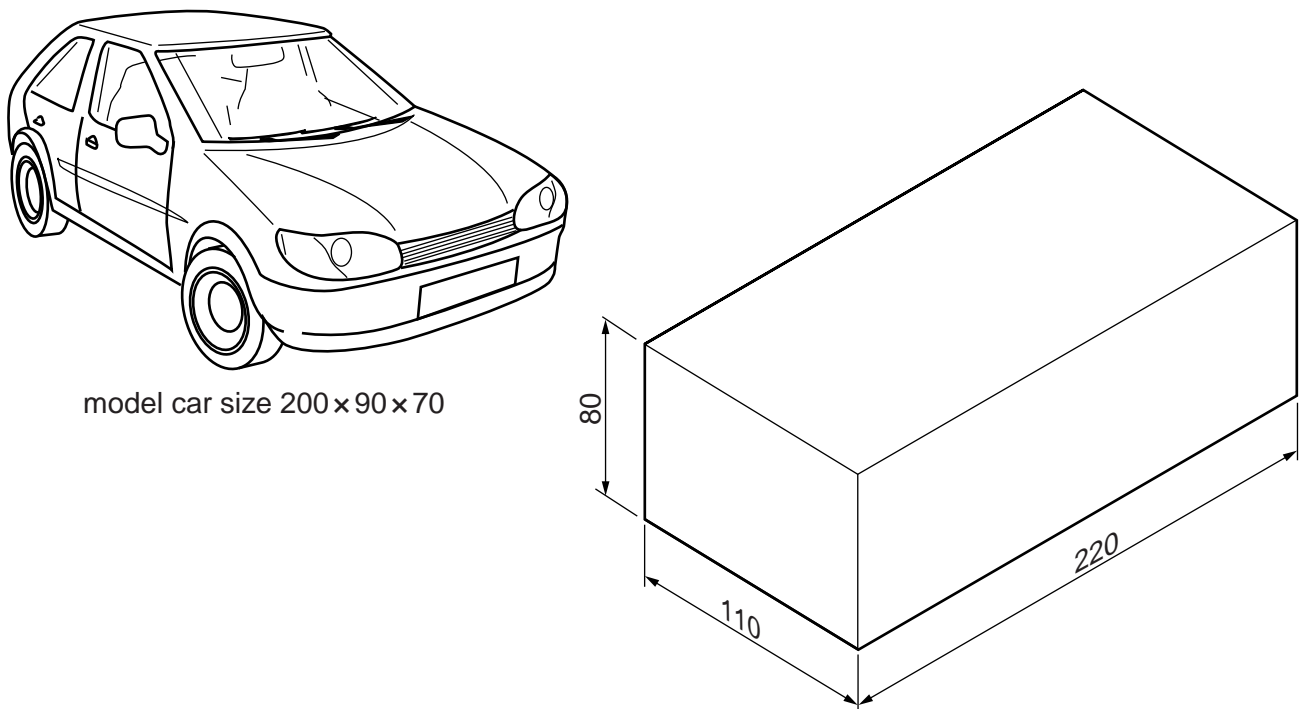

Fig. 7
- 7 Fig. 7 shows a model car and an incomplete idea for the card box in which it will be packaged.